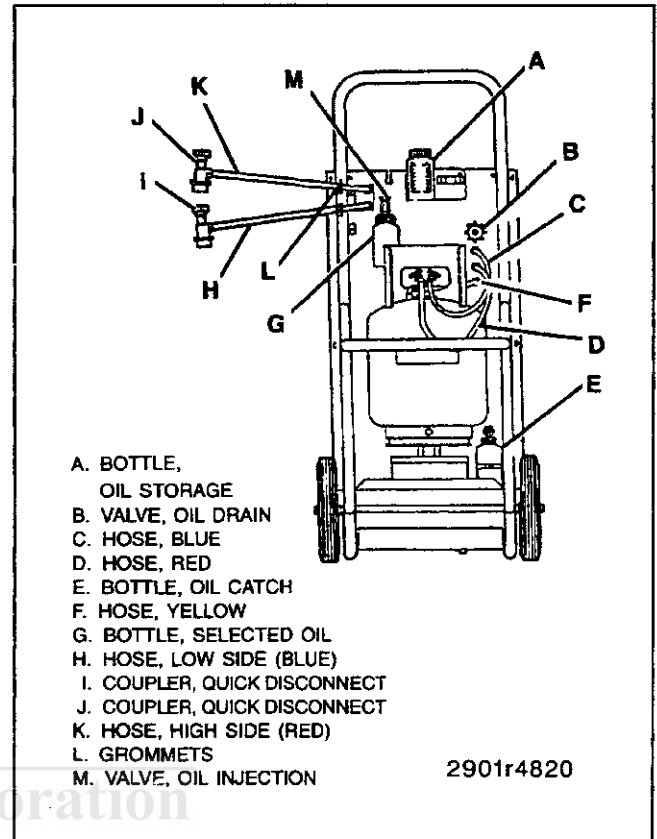

Figure 13—Complete Operational Set-Up
1. Connect high side (Red) and low side (Blue) hoses to the ACR4 unit (figure 13). Be sure to route hoses through hose reel bracket grommets.
6. Slowly open the oil drain valve (B) to see if the oil separator contains oil (figure 13).
13. Slowly open the oil drain valve (B) and drain the oil into the calibrated oil catch bottle (E) at the bottom of the unit (figure 13).